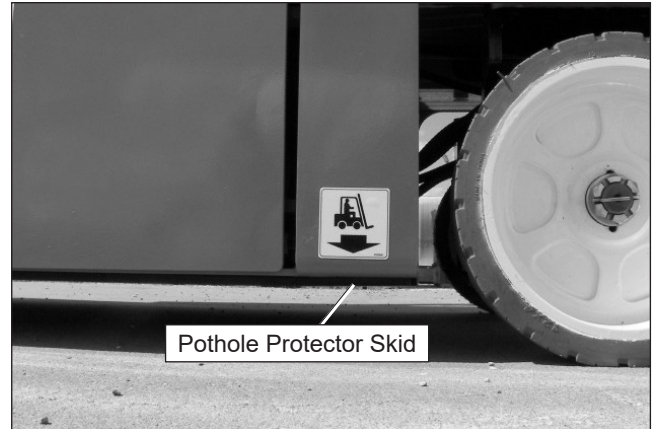

Figure 8.11 – Pothole Protector Skid
3. With the trays closed, check the ground clearance under the pothole protector skids (refer to Figure 8.11). Clearance should be at about 2.63" (6.68 cm) on both sides of the aerial platform.